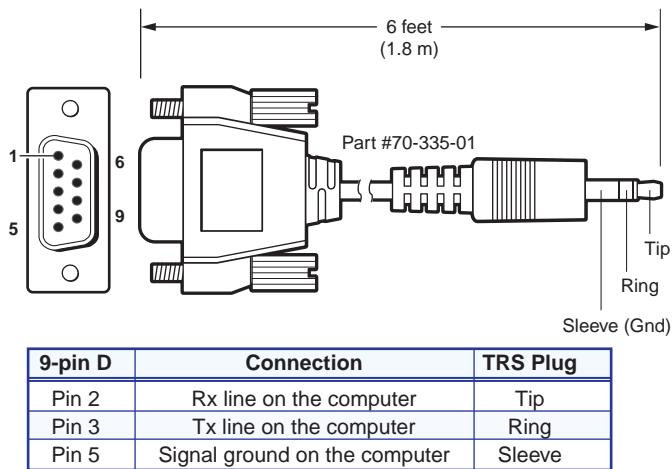

Figure 13. 9-pin TRS RS-232 Cable
④ **Comm Select button** — Repeatedly press this button as necessary to select the desired board for connection to the Configuration port (item ⑤). The Comm LED (item ①) for the selected board lights.
⑤ **Configuration port** — This 2.5 mm mini stereo jack serves the same serial communications function as the Remote RS-232 port on the transmitter or receiver board, but is easier to access than the ports on the boards after the units have been installed and cabled. The 9-pin D to 2.5 mm mini jack TRS RS-232 cable, included with the PowerCage enclosure, but also available separately, part number **70-335-01** (see figure 13), can be used for this connection.